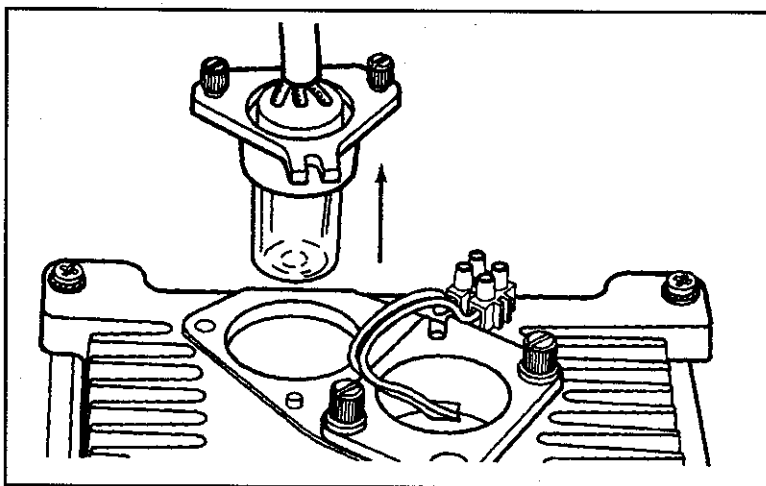

Figure 12-6.
5. Remove the source by lifting straight up. See Figure 12-6.